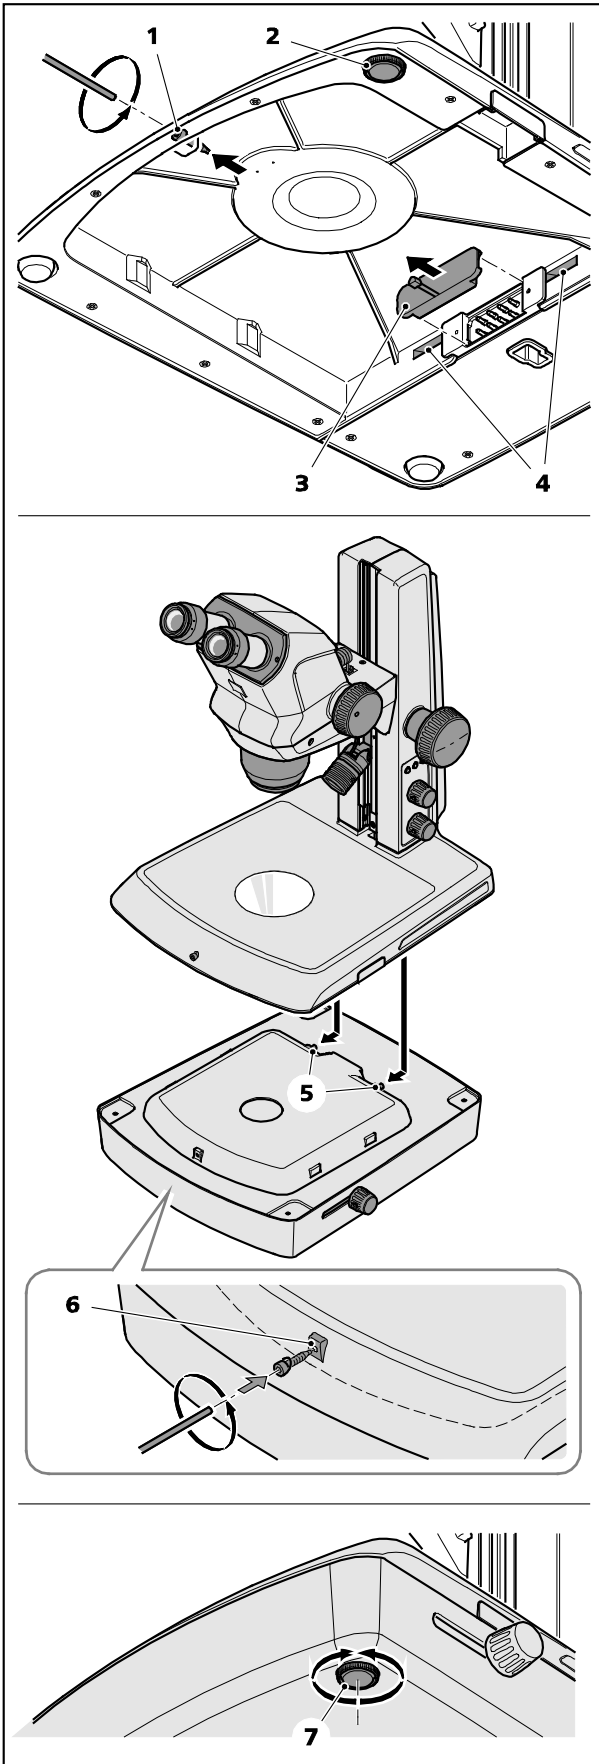

Fig. 3 Mounting the Transillumination Unit
- Unscrew the 3 mm Allen screw (Fig. 3/1) on the front of the stand and place it to one side.
- Screw the height-adjustable stand foot (Fig. 3/2) in completely.
- Remove the cover flap (Fig. 3/3).
- Carefully mount the stand onto the Transillumination Unit from the rear. Push it forwards until the stand plate and transmitted light housing are flush. The two lugs (Fig. 3/5) must slot into the recesses (Fig. 3/4).
- Screw the 3 mm Allen screw into the tapped hole (Fig. 3/6) of the Transillumination Unit and tighten by hand.
- Return the stand to upright and, if necessary, prevent wobbling by adjusting the height-adjustable foot of the Transillumination Unit (Fig. 3/7).